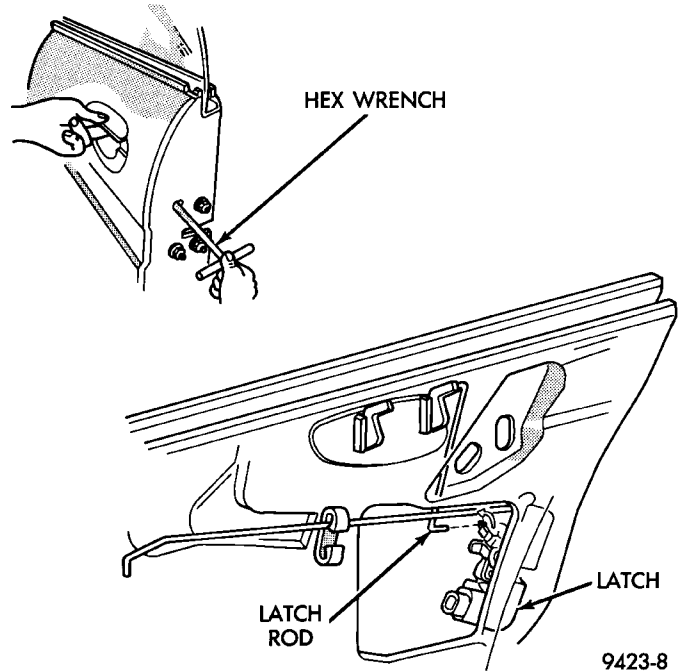

Fig. 90 Door Latch Adjustment
(1) Insert a hex-wrench through the elongated hole in the door end frame near the latch striker opening (Fig. 90).
(2) Loosen socket head screw on the side of the latch linkage.
(3) Lift upward on outside door handle and release it.
(4) Tighten socket head screw on latch.
(5) Verify latch operation.